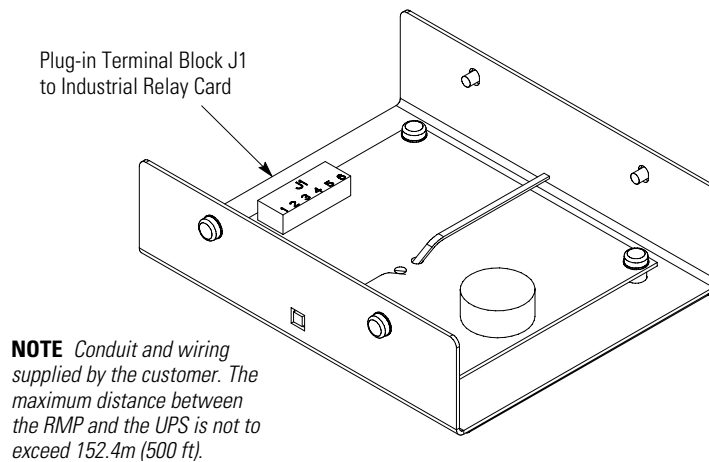
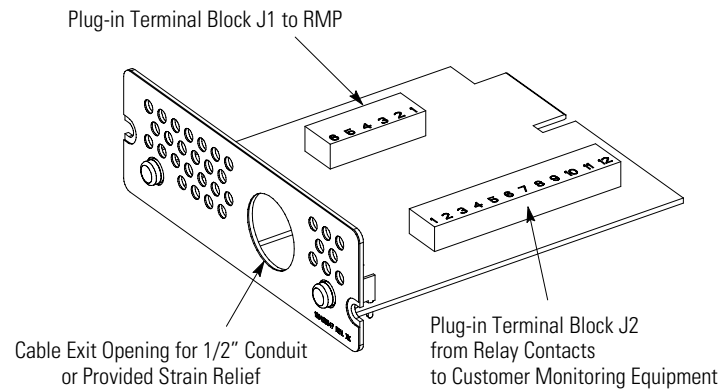

Figure 43. RMP Top Internal View
Figure 44. Industrial Relay Card
3. Install wiring from the RMP to the IRC using the cable listed in Table 4 and the provided strain relief bushings in the cable exit openings in the IRC (see Figure 44) and the RMP.
4. Connect the wiring between the RMP and the IRC plug-in terminal blocks using terminations shown in Table 4. See Figure 43 and Figure 44 for plug-in terminal block locations.
The IRC uses normally-open or normally-closed dry relay contacts to indicate the UPS status as listed in Table 5. Figure 44 shows an IRC.
2. Install wiring from the IRC to the monitoring equipment using 1/2" conduit through the cable exit opening in the IRC (see Figure 44).
3. Connect wiring between the IRC and the monitoring equipment using terminations shown in Table 5. See Figure 44 for plug-in terminal block locations.